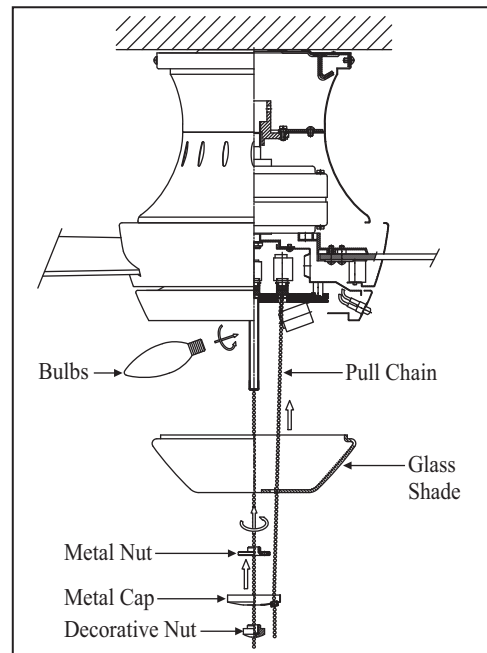

Figure 23
glass shade over the light kit stem, secure with the metal nut (rubber side on the top). **Do not overtighten.** (Fig. 23)
6. Insert the 2 pull chain through the eyelet in the shade and cap. Secure the metal cap and decorative nut provided (Fig. 23).